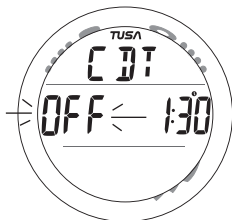

Fig. 18B - WATCH CDT
- A (< 2 sec) will save the Minutes Set Point and revert to the CDT Status screen with the graphic OFF (flashing) in place of the graphic SEt (Fig. 18B).